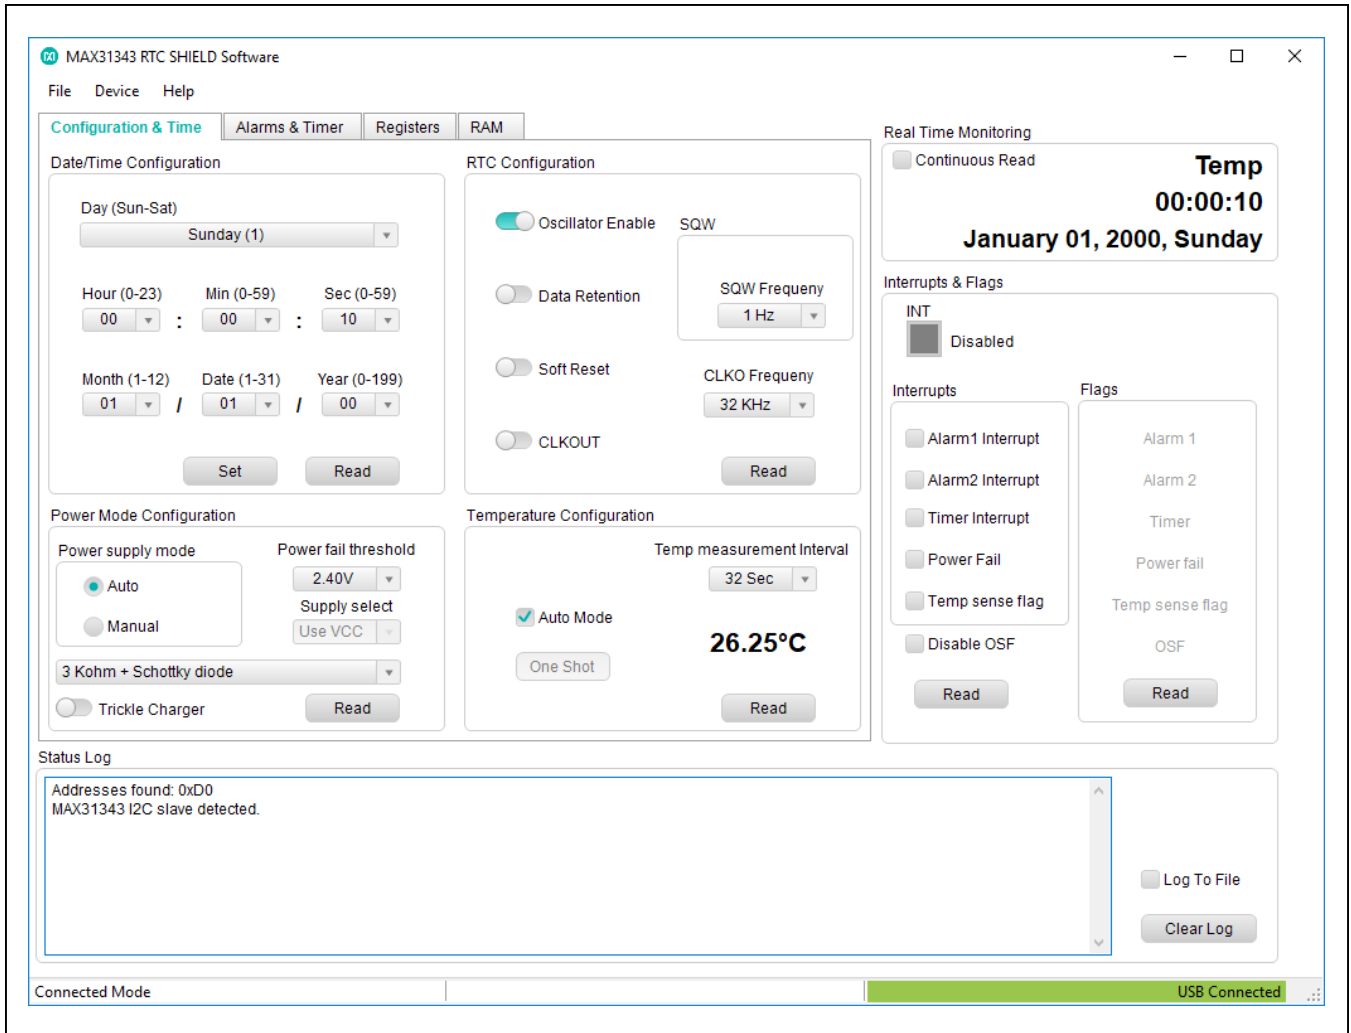

Figure 2. MAX31343 RTC SHIELD Software—Configuration & Time Tab
- 6) Open the MAX31343 RTC SHIELD Software, shown in Figure 2.